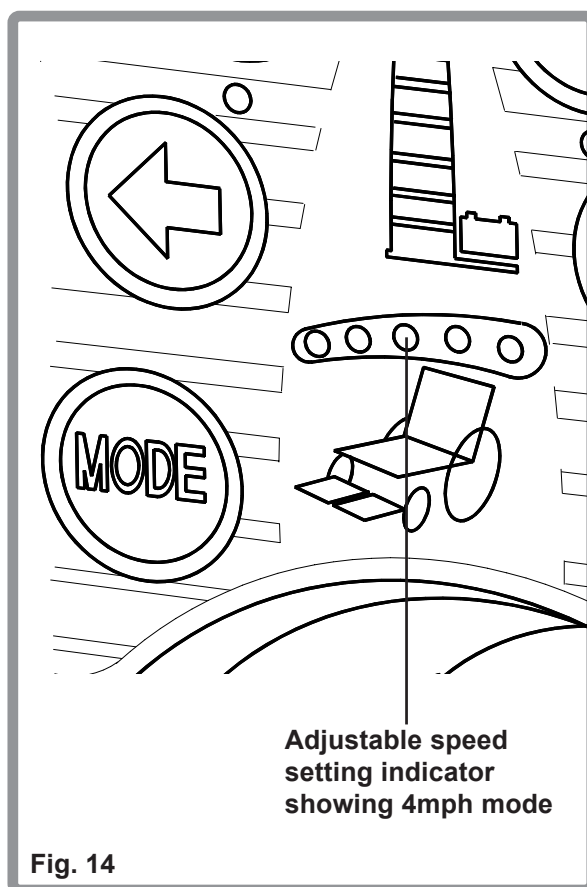

Fig. 14
1. Press the mode button until the speed settings indicator is flashing (Fig. 14).